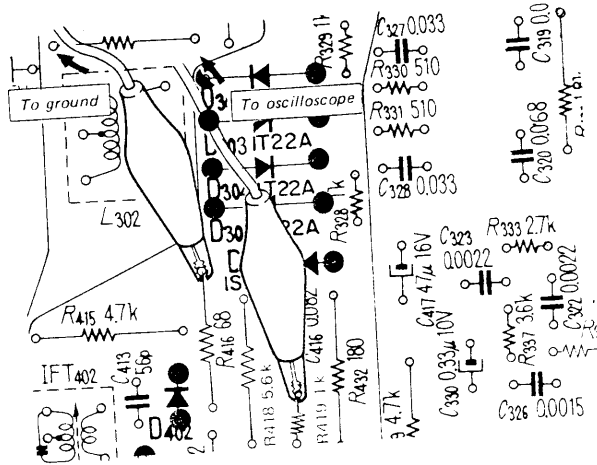

Fig. 3-11. A-m detector output connection
2. Connect the input cable of the oscilloscope with alligator clips to the connection point of R418 and R419 and ground on the tuner and MPX board as shown in Fig. 3-11.